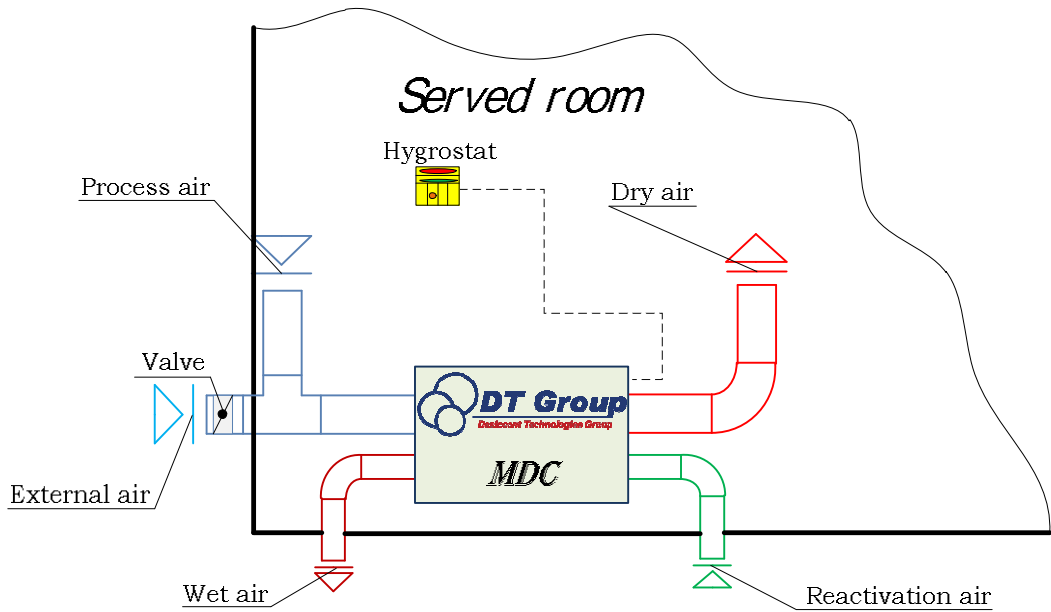
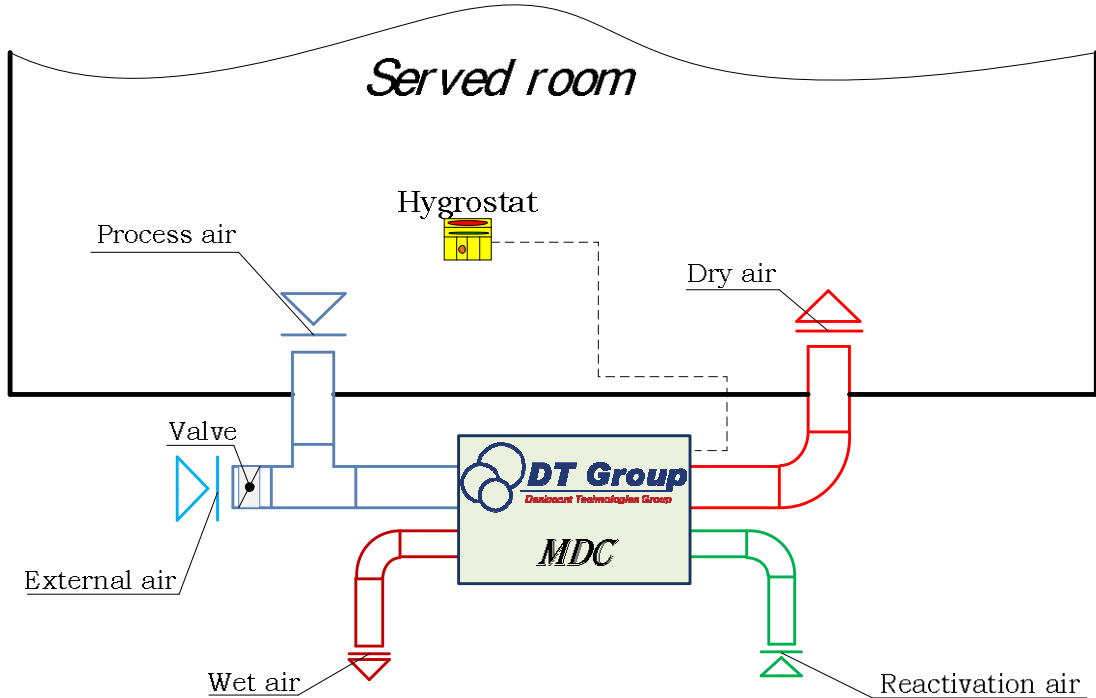

Figure 4.5: Work of dehumidifier on a "closed" circuit with the mixing of outdoor air (indoor version)
Figure 4.6: Work of dehumidifier on a "closed" circuit with the mixing of outdoor air (outdoor version)
- ✓ Work of dehumidifier on a "closed" circuit with the mixing of outside air (indoor version), Figure 4.5;
- ✓ Work of dehumidifier on a "closed" circuit with the mixing of outside air (outdoor version), Figure 4.6;
Figure 4.5 shows the indoor installation of dehumidifier when operating in recirculation mode ('closed' circuit) with mix of the outdoor fresh air. This is useful in situations where you must ventilate the room with fresh air, or create the overpressure in the served premises to prevent uncontrolled flow of outdoor air (infiltration). Outdoor air inlet duct must be equipped with manual or automatic air damper to adjust the amount of fresh air supply.
Figure 4.6 shows outdoor installation of dehumidifier when operating in recirculation mode ("closed" circuit) with mix of the outdoor fresh air. It differs from the fifth version (see Figure 4.5) only by the location of the dehumidifier.